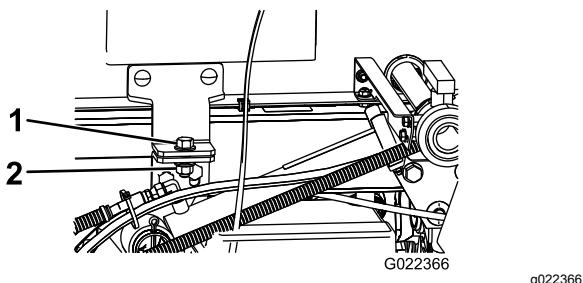

Figure 87
4. Remove the safety bolts from the front of the skid (Figure 87).